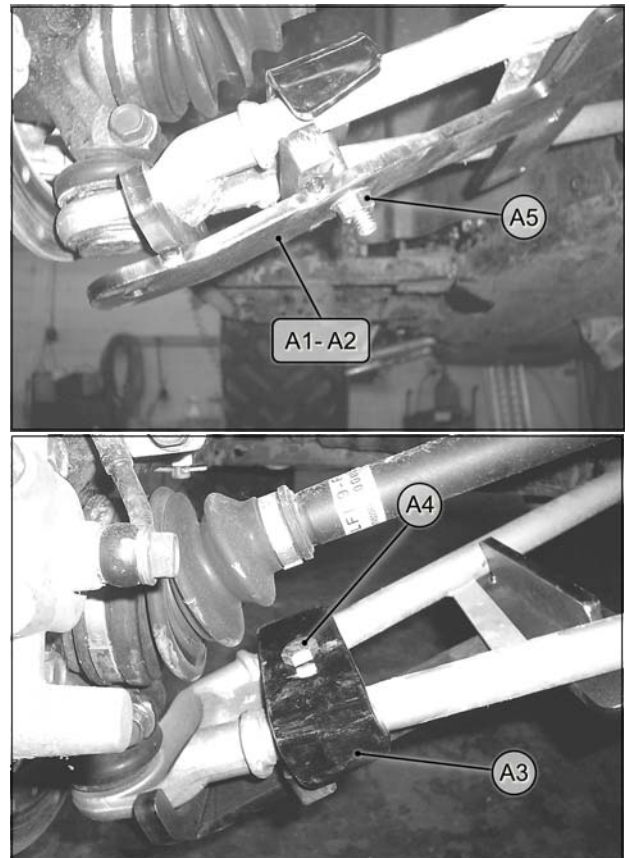

Fig. 15
5. Position bottom part of anchor bracket (**A1-A2**) assembly under front lower suspension arm, as shown in the figure below. Position bracket cover (**A3**) over suspension arm and align holes in cover and bottom part. Insert M10x65mm bolt (**A4**) through top and secure the two parts together with nut (**A5**) provided. Tighten assembly to 50 N•m [37 lb•ft] of torque. Refer to Fig. 15